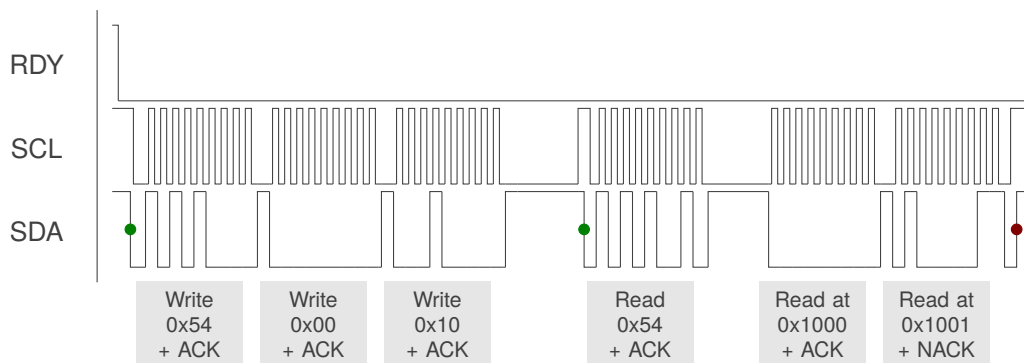

Figure 10.1: I2C Read Example — Read Status Registers 0x1000 and 0x1001
A typical read operation is displayed in Figure 10.1. The master device waits for the RDY line of the IQS325 to go low, indicating the availability of new data and an available communication window. Once the RDY interrupt is triggered, the master initiates communication by sending a start condition followed by the device address and a write command. The IQS325 responds with an acknowledgement, after which the master device will transmit two bytes defining the register address. The master then sends a repeated start condition, followed by the device address with a read command. The IQS325 transmits data from the requested address and will continue to do so while the master acknowledges each byte. The read operation is ended when the master does not acknowledge the last byte received and produces a stop condition.
- > Read the *Power Settings* Registers (0x100A) as illustrated in Figure 10.1.
With the *I2C Stop Ends Comms Window* setting enabled in the *I2C Settings* register, a standard I2C STOP ends the current communication window. If multiple I2C transactions need to be done, then they should be strung together using repeated-start conditions instead of giving a STOP. Allowing an I2C STOP to terminate the communication window is the recommended method, as illustrated in Figures 10.1 and 10.2.